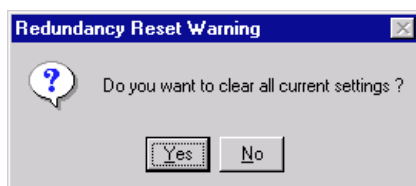

Figure 7-8. Redundancy Reset Warning Window
1. Click **Reset**. A warning window will appear (Figure 7-8), asking you to confirm your selection.